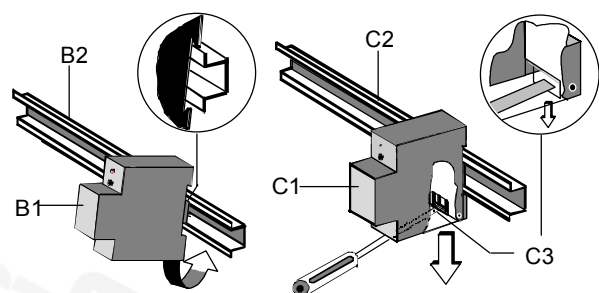

Figure 2: Mounting and dismounting a DIN-rail device
- Snap the IP Control Center N152 (Figure 2, B1) on to the DIN rail (Figure 2, B2).
- Remove the device (Figure 2, C1) with the catcher (Figure 2, C3) from the DIN rail (Figure 2, C2)